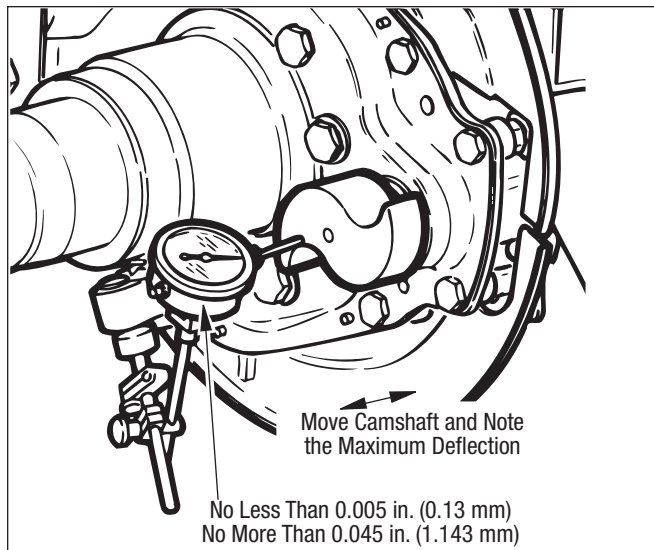

Figure 57 – Slack Adjuster End Play Check
6. Mount a suitable dial indicator with the plunger referencing the end of the cam head. Refer to Figure 57.